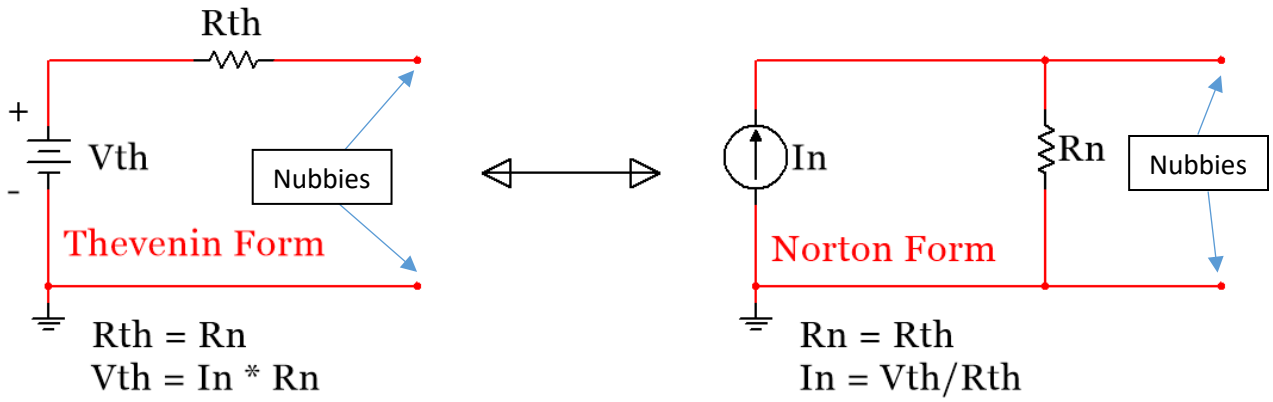
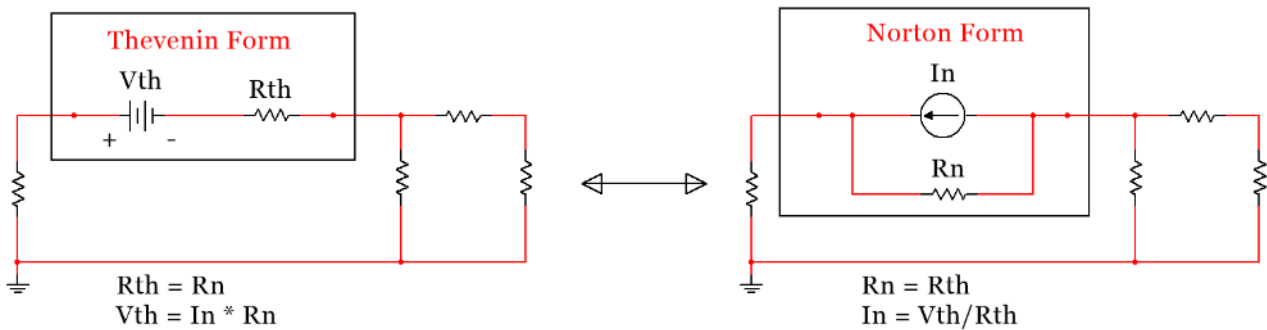
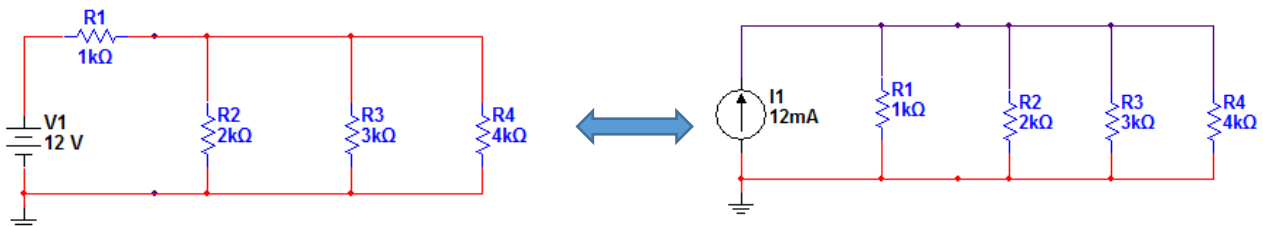

Figure 2.1: Source Transformation: Thevenin and Norton Form
Figure 2.2: Source Transformation: Location 2
Figure 2.4: Circuit for Example 2.1
A voltage source that is in series with a resistor as seen in the left side of Figure 2.1 is called Thevenin Form. A current source that is in parallel with a resistor as seen in the right side of Figure 2.1 is called Norton Form. This section shows how to convert a Thevenin Form to a Norton Form, and how to convert a Norton Form to a Thevenin Form.
4. Ohm's Law is used to transform the value of the source as shown below the circuits in Figure 2.1.
5. The polarity of the V_{th} and direction of I_N is determined as shown in Figure 2.1. The + side of the voltage source is on the same side as the head of the current source arrow.
Note: The two red dots in both the Thevenin and Norton Form shown in Figure 2.1 are significant. I have the strange habit of calling these red dots “Nubbies.” The point of doing a source transformation is that any combination of circuit elements that are added to those two dots will have exactly the same voltage and current values with either the Thevenin or Norton form of the source connected to them. For example, the voltages across resistors R2, R3, and R4 will be the same for both circuits shown in Figure 2.4. However, the voltage across R1 will **NOT** be the same for both of the circuits because it is not connected externally to the “Nubbies,” but is inside the source transformation.
Sometimes the voltage source or the current source isn’t in the exact location or polarity as shown in Figure 2.1 and students get confused on how to execute the transformation. Figures 2.2 and 2.3 show two other source transformations where the sources are located at different spots in the circuit. As long as the 5 rules shown above are followed the source can be transformed. Keep an eye on the Nubbies in these examples.
Example 2.1) Converting the circuit that has the source in Thevenin Form (on the left of Figure 2.4) to a current source in Norton Form will change this problem from a 3 loop mesh problem to a one node problem. Doing this simplification will result in a much easier problem as seen in Sections 2.3 and 2.4.
Answer: The Circuit on the right in Figure 2.4 shows the circuit transformed into Norton Form. The current source is equal to $I_1 = V_1/1k = \underline{12 \text{ mA}}$.